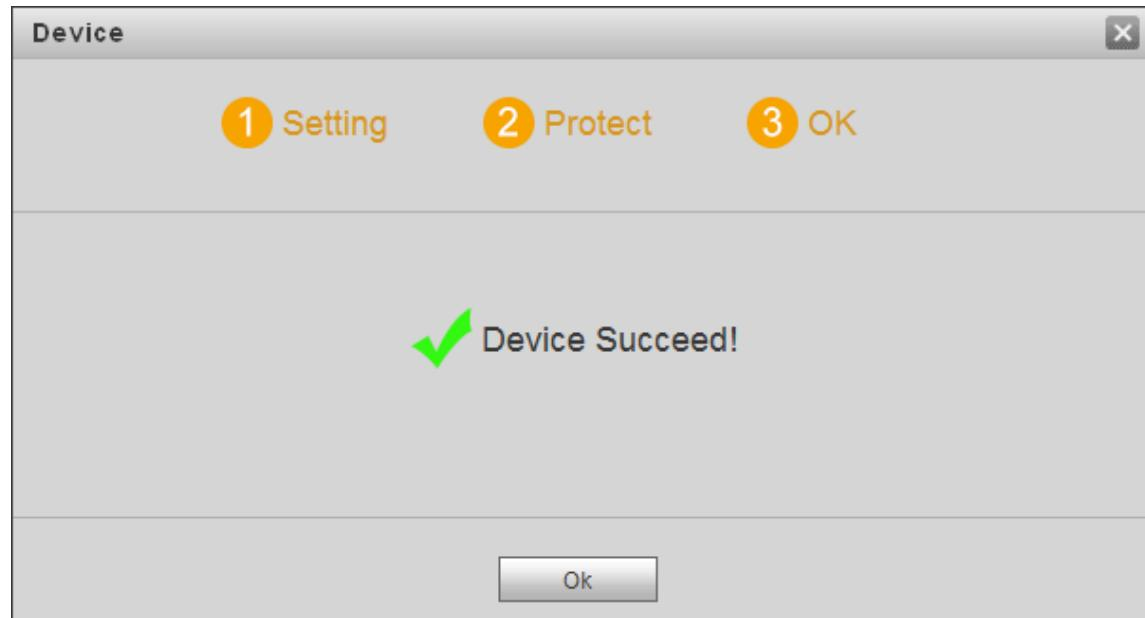

Figure 8-3
Step 4 Click “Next”. The system displays “OK” interface, as shown in Figure 8-3, and shows “Device succeed!”